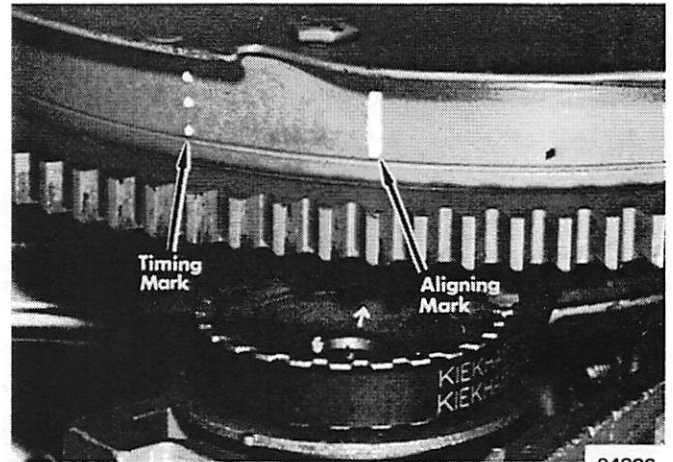

Figure 2. Alignment Marks (Merc 800, Serial No. 2881081 and Below)
*NOTE: Merc 800 engines (Serial No. 2881081 and below) have a straight white line on flywheel. On those below Serial No. 2881081, line up the distributor pulley arrow with the straight line and proceed with timing and testing. (Figure 2)*